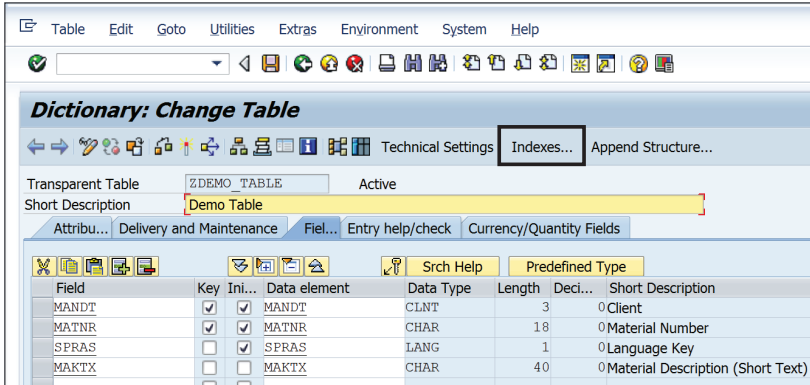

Figure 10.13 Creating Index
1. First, on the `DICTIONARY: CHANGE TABLE` screen, click the `INDEXES` button, as shown in Figure 10.13.